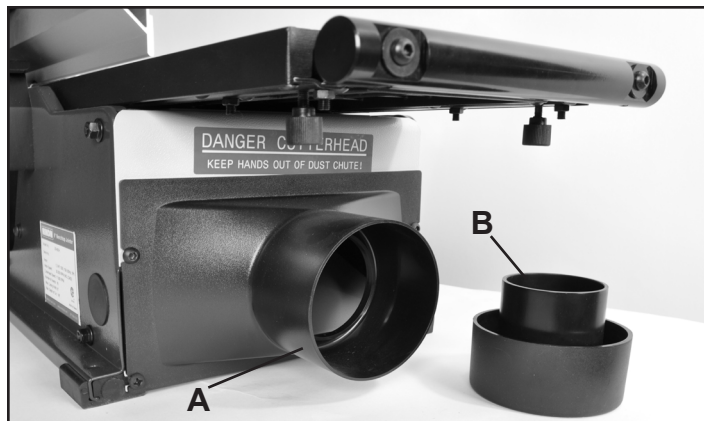

FIG. 9
The main Dust Port (A) is pre-assembled at the factory with a 4 inch OD fitting. In addition a Vacuum Adapter (B) is provided to reduce to 2-1/2 inch (OD) or 2-1/4 inch (ID) hose sizes. FIG. 9.